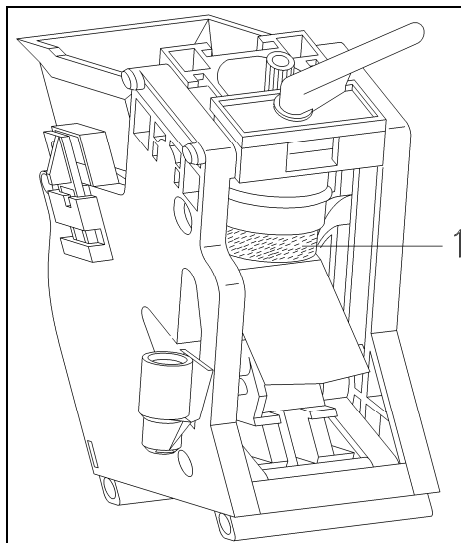

Figure 4-6: Brew Unit, Showing Compressed Coffee "Puck"
7. The drives are energized (in reverse) and move the brew unit toward the "home" position. As this action occurs the coffee chamber moves upward and releases the used compressed coffee grounds into a "puck" (Figure 4-6, Item 1).